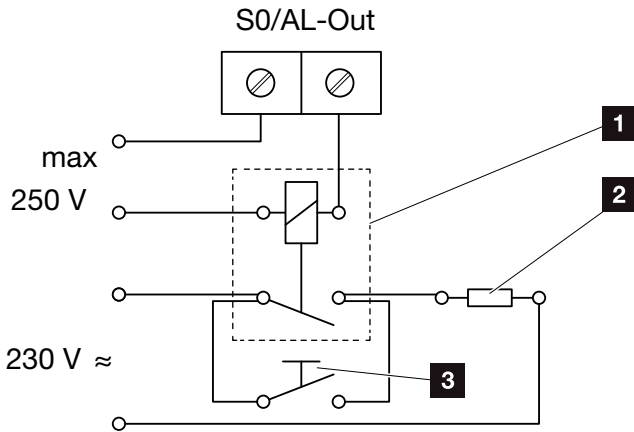

Fig. 65: Electrical connection for self-consumption
1. Properly connect the external load relay to the terminal S0/AL-Out.  **Fig. 65**